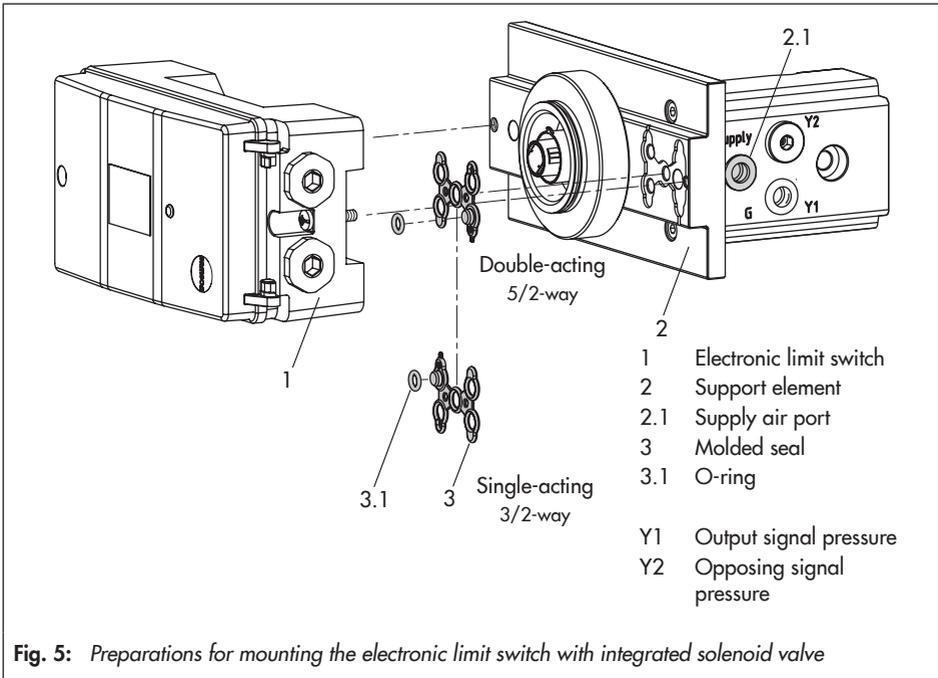

Fig. 5: Preparations for mounting the electronic limit switch with integrated solenoid valve
(Type 3738-20-xxx14xxxxx2xx) (Fig. 5)**
1. Insert the molded seal (3) into the support element (2) depending on the type of actuator (single-acting or double-acting).
2. Slide the O-ring (3.1) onto the air duct of the molded seal (3).
3. Fasten the electronic limit switch (1) to the support element (2) using the two screws mounted on the electronic limit switch as shown in Fig. 5.
4. Remove the blanking plug on the supply air port (SUPPLY, 2.1) of the support element (2).
1. Fasten the electronic limit switch (1) to the support element (2) using the two screws mounted on the electronic limit switch as shown in Fig. 5.